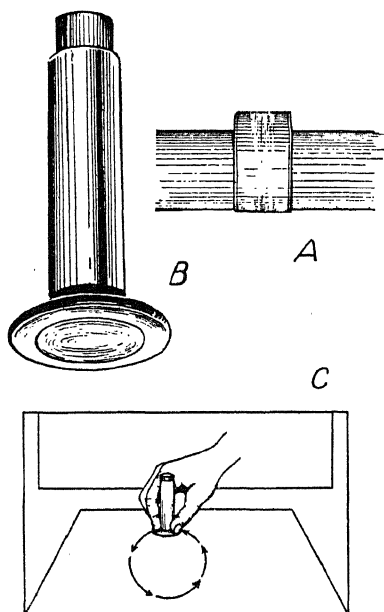

Fig. 22. A—Scored Cam
When testing the camshaft for misalignment, place it between centers in the lathe or on the V-block on the test bench. Mount the indicating gauge so as to indicate the truth of the center bearing. If the test shows the camshaft to be sprung more than .002 inch, the usual practice is to replace it with a new one or to have it straightened until it does check within this limit. If the cams are scored, as indicated at *A* in Fig. 22, it is necessary that they be dressed down
**Polishing Cam Followers.** When the adjusting screw of the valve lifters is set with too close clearance under the valve stem or push rod, the valve lifter is forced down on the cam at each explosion within the engine cylinder. This results in a very great load on the face of the cam follower and scoring of the cam follower is almost certain to occur, as is shown at *B* in Fig. 22. This is a condition which results in the scoring of the cam, as shown at *A*. In order to remove these score marks, the mechanic may use a sheet of fine emery paper, preferably 0 or 00, tacked on to a board or held on the face plate. Use a rotary motion, as indicated at *C*, to polish out these scores. Continue the work until no scratches whatever are to be found.